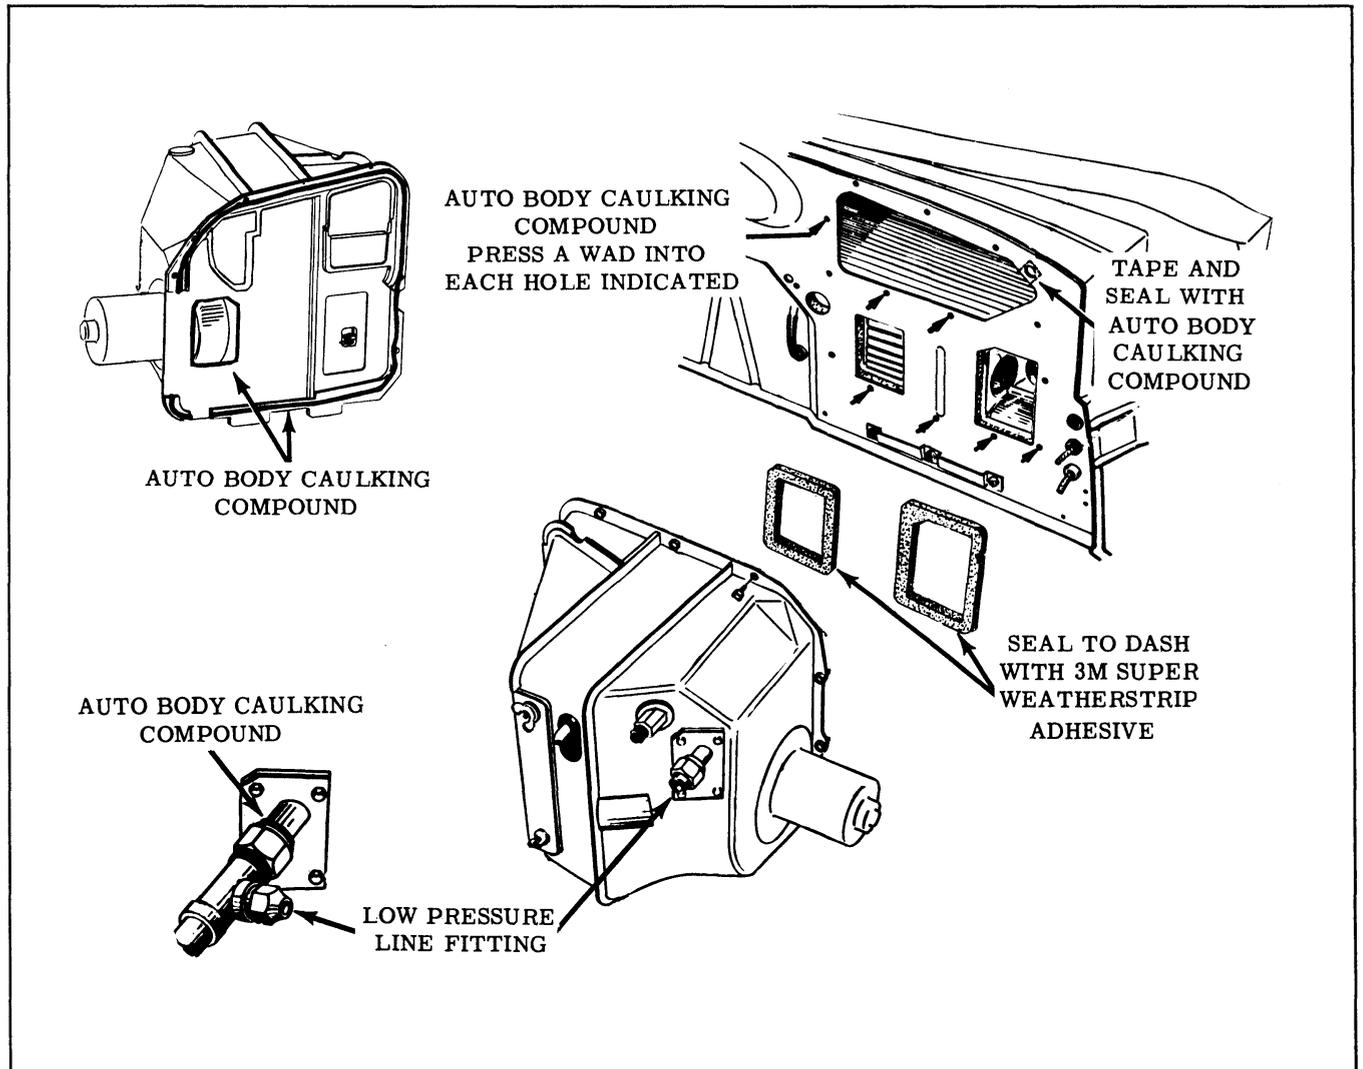

Fig. 14-34 Sealing Areas
1. Scrape old sealer from dash and apply auto body caulking or equivalent to the edge of the back panel. (See Fig. 14-34)